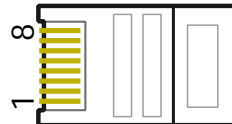

Fig. 6: Contact assignment (= line number) of the RJ45 plug
1) Contact assignment of the RJ45 plug for the RS485 bus: See Fig. 6.